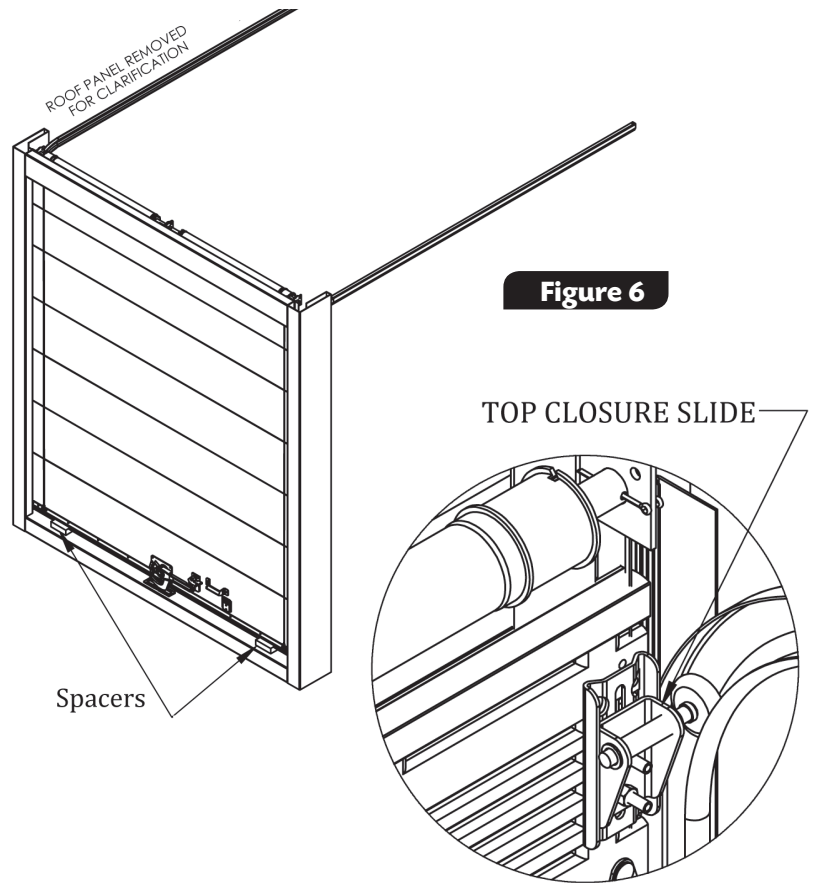

Figure 6
- Place (2) spacers at the bottom of the door as spacers. **Figure 6**
- From the inside, remove foam spacers, close the door and loosen the top closure slide (**Figure 6**) and adjust the location so that the top panel seals against both the header and side seals. As the roller bracket is moved down, the top panel will get closer to the operator when the door opens. The top seal can be notched to clear the cables.